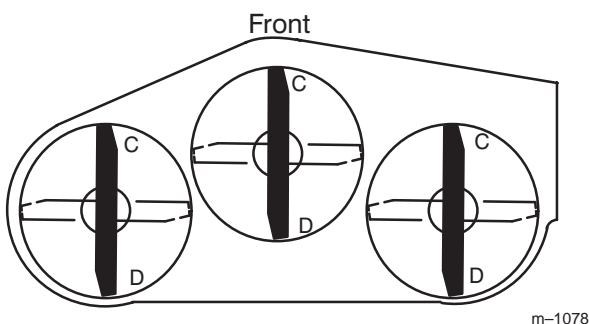
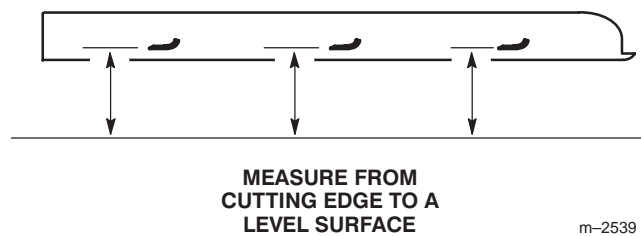

Figure 62
Figure 63
2. Position one blade front-to-rear (Fig. 62). Measure at "C" and "D" locations (Fig. 62) from a level surface to the cutting edge of the blade tips (Fig. 63).
4. Position the blades front-to-rear (Fig. 62). Measure at "C" and "D" locations (Fig. 62) from a level surface to the cutting edge of the blades (Fig. 63).